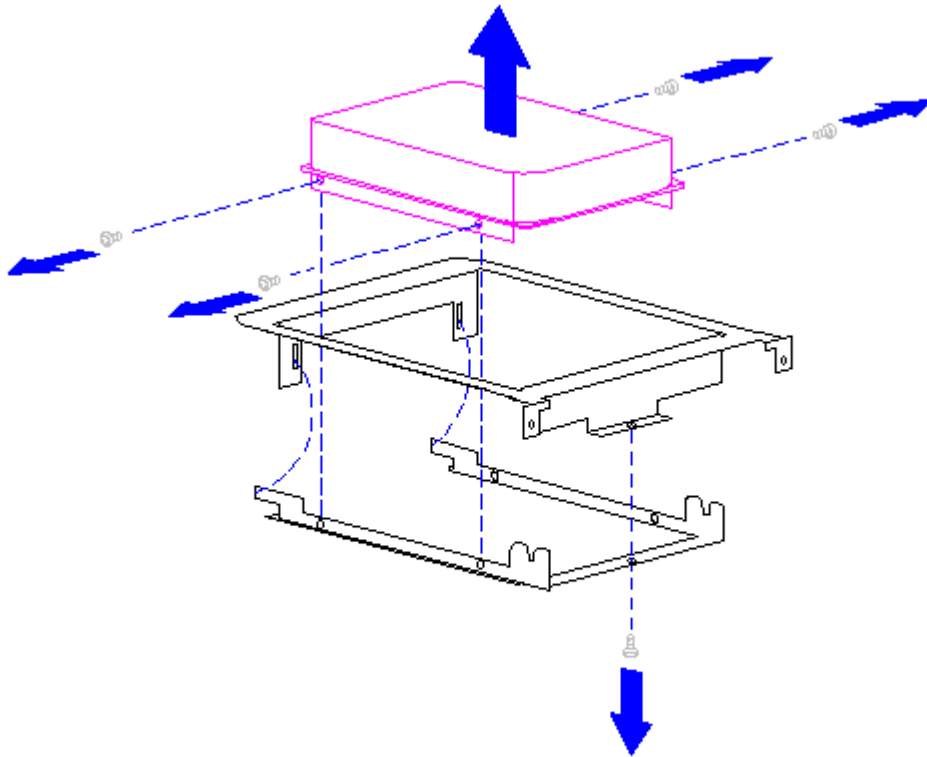

Figure 5-33. Removing the Mounting Bracket from a Hard Drive
8. Remove and retain the hard drive mounting bracket (Figure 5-33).
9. Ensure that both hard drives have their configuration set for cable-select installation (see Chapter 6) and install the mounting bracket onto the hard drive (Figure 5-33).